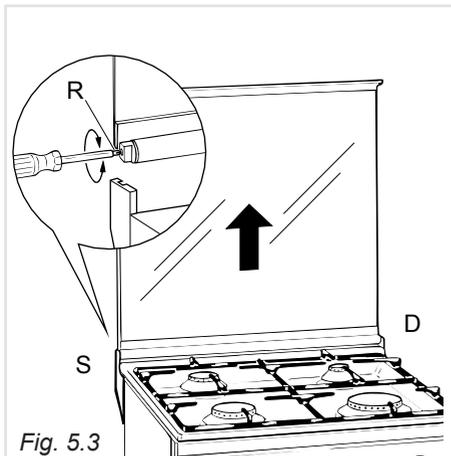

Fig. 5.3
- The right housing must receive the hinge marked "D" while the left housing must receive the hinge marked "S" (Fig. 5.3)
If necessary, register the calibration of the hinge springs using the screws "R" (fig. 5.3).